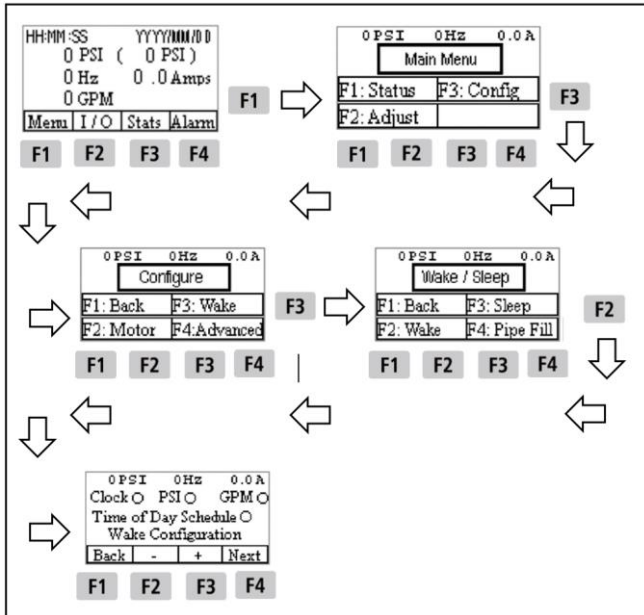
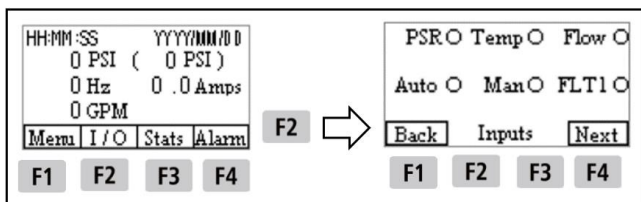

Figure 12-13. Configuring The System Flow Start.
Figure 12-15. Checking The Signal From The Irrigation Controller.
3. From the System Status screen, press the **F1** Menu key to get to the Rain Bird Main Menu screen (see Figure 12-13).
4. From the Rain Bird Main Menu screen, press the **F3** Config key to get to the Configure menu (see Figure 12-13).
5. Press the **F3** Wake key to get to the Wake / Sleep menu (see Figure 12-13).
6. Press the **F2** Wake key to get to the Wake Configuration screen (see Figure 12-13).
5. Press the **F3** Wake key to get to the Wake / Sleep screen (see Figure 12-13).
9. Press the **F1** Back key 4 times to return to the System Status screen.
11. The irrigation controller signal may be checked from the System Status screen (see Figure 12-15). Press the **F2** I / O key to get to the Inputs screen.
2. From the System Status screen, press the **F1** Menu key to get to the Rain Bird Main Menu screen (see Figure 12-13).
3. From the Rain Bird Main Menu screen, press the **F3** Config key to get to the Configure menu (see Figure 12-13).
4. Press the **F3** Wake key to get to the Wake / Sleep screen (see Figure 12-13).
5. Press the **F2** Wake key to get to the Wake Configuration screen (see Figure 12-13).